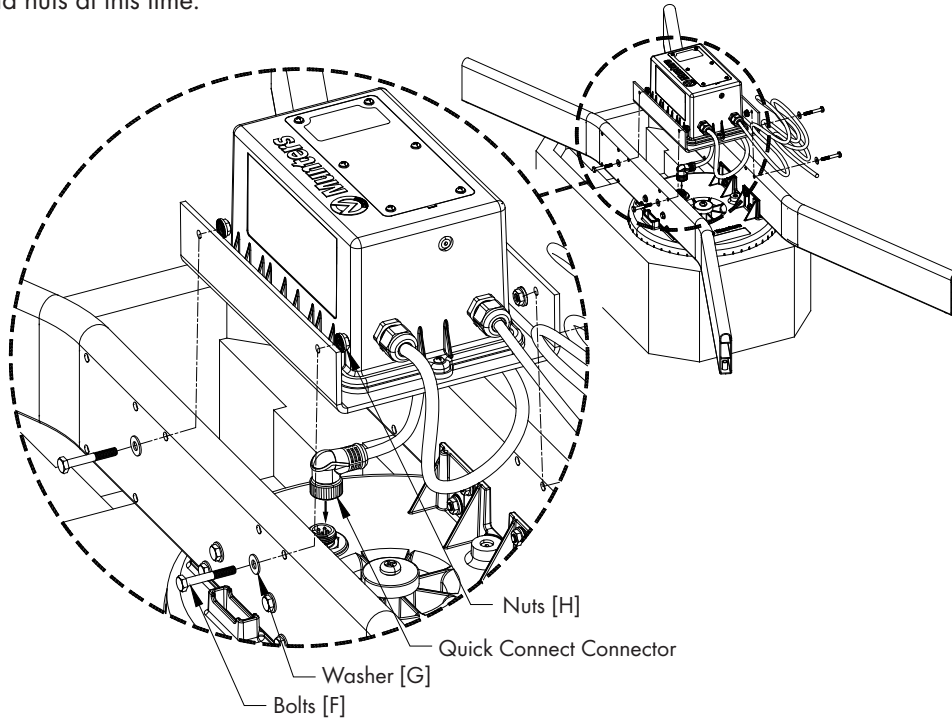

Figure 7
Retrieve the Munters Drive Controller and connect the Quick Connect Connector to the Motor. Slide the Controller with bracket between the struts so that the 2 holes in each strut line up with the holes in each side of the controller bracket and fasten with (4) Bolts [F], Washers [G] and Nuts [H]. See Figure 7. Tighten all bolts and nuts at this time.